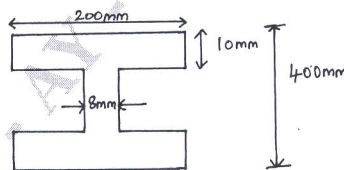

Fig.Q7(b)
- b. The Cross-section of a beam is as shown in Fig.Q7(b). If permissible stress is 150N/mm^2 . Find its moment of resistance. Compare it with equivalent section of the same area for a square section.